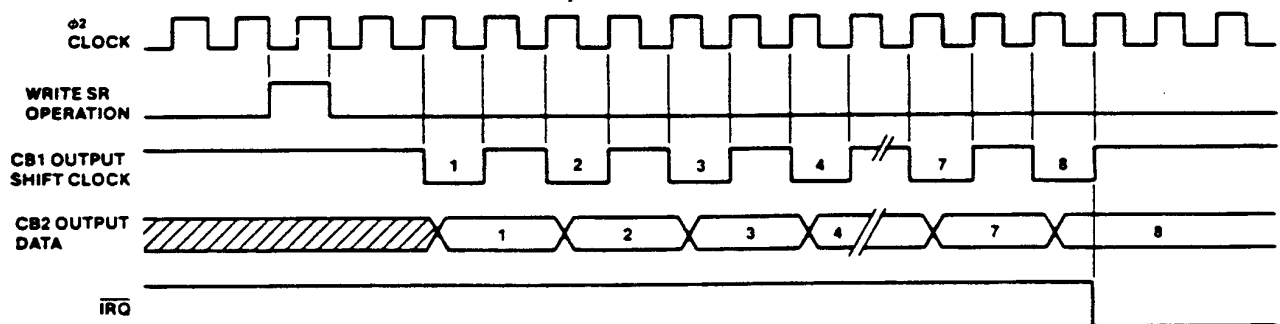

Figure 35. Shift Out— $\phi 2$ Control
Shift Out—phi2 Clock Control (110)—In this mode, the shift rate is controlled by the system phi2 Clock. Refer to Figure 35.